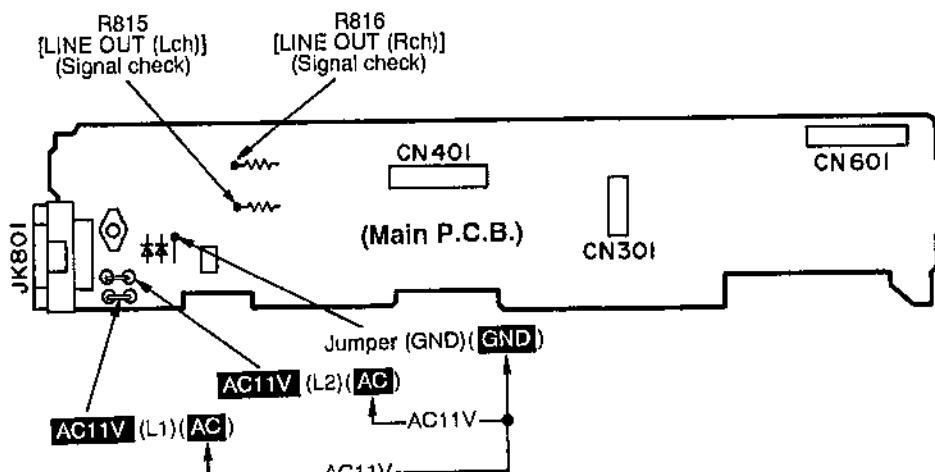

Fig. 1
Apply 11V AC power to the section between **AC11V (AC)** of the coil (L1) and the jumper J1 (**GND**) as well as the section between **AC11V (AC)** of the coil (L2) and the jumper J1 (**GND**). (10V AC power can be also applied when using power supply tool.) (Shown in Fig.1)
Connect the oscilloscope or the speaker with built-in amplifier to the section between LINE OUT (Lch) of the resistor R815 and the GND point of the jumper J1 as well as the section between LINE OUT (Rch) of the resistor R816 and the GND point of the jumper J1 and check if the signals are outputting from this unit. (Shown in Fig. 1)